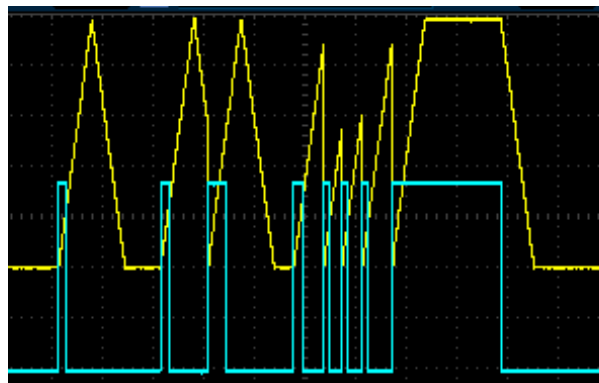

Figure 5: Asynchronous trigger
3. **Async jack (Asynchronous)** — Apply a trigger/gate to this jack to cause an envelope to start **immediately**. Holding a gate high will cause the envelope to sustain as long as the gate is high, and then start the fall curve once the gate is released (A-S-R envelope). See Figure 5